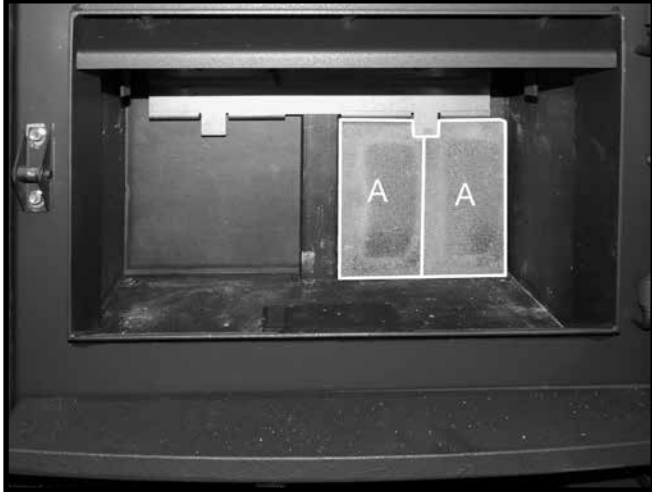
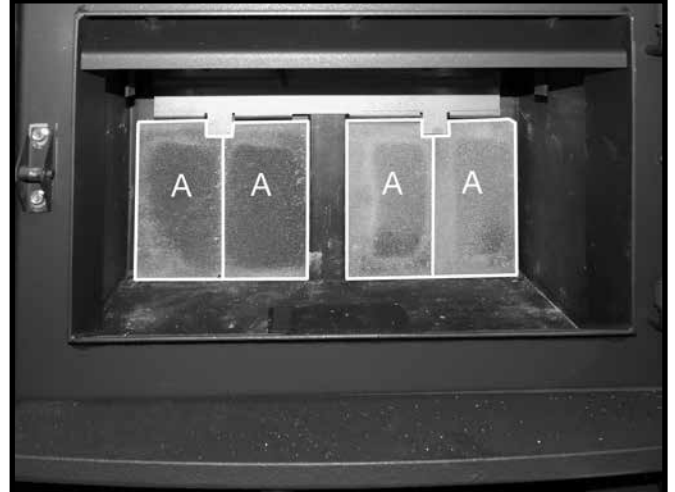

Figure 24: Installing the two rear wall firebricks.
Figure 25: Remaining rear wall firebricks in place.
2. Slide a 2nd "A" firebrick underneath the tab on the brick rail (Figure 24). Repeat steps 1 & 2 for the other side (Figure 25).